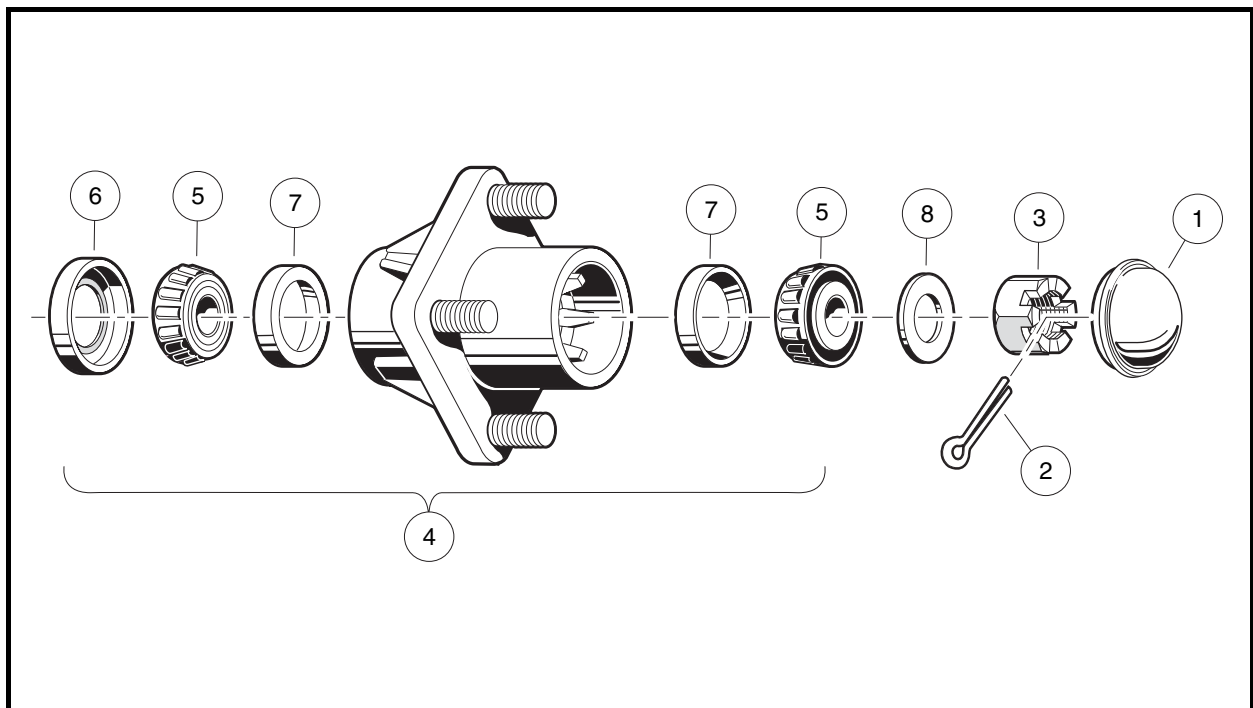

Figure 7-25 Front Wheel Bearings and Hub - Four-Wheel Brake Vehicles
2. Using your hands, attempt to rock the wheel and hub assembly back and forth on the spindle. If there is any observable movement of the wheel and hub on the spindle, remove dust cap (1) and cotter pin (2), and then tighten the spindle nut (3) until the bearing (5) fully seats in the bearing race (7).
4. Install a new cotter pin (2). If movement continues, replace the wheel bearings (5) as required (Figure 7-25, Page 7-23).
- 2.1. Remove dust cover (1), cotter pin (2), spindle nut (3), and flat washer (8) (**Figure 7-25, Page 7-23**).
1. Pack the wheel bearings (5) and hub cavities, and lubricate cups (7) with wheel bearing grease or chassis lube. Make sure the grease is forced between the rollers (**Figure 7-25, Page 7-23**).
2. If bearing cups (7) were removed, press new ones in squarely against stops in the hub. **See following NOTE.**
3. Install the wheel bearings (5) into the hub and install a new seal (6), with the metal edge toward the hub. **See following NOTE.**
4. Install the hub assembly (4) and flat washer (8) on the spindle and start the spindle nut (3).
5. Tighten the spindle nut until the hub is hard to turn, then back the nut (3) off until the hub turns freely. Install a new cotter pin (2). **See following NOTE.**
7. Install the dust cap (1).